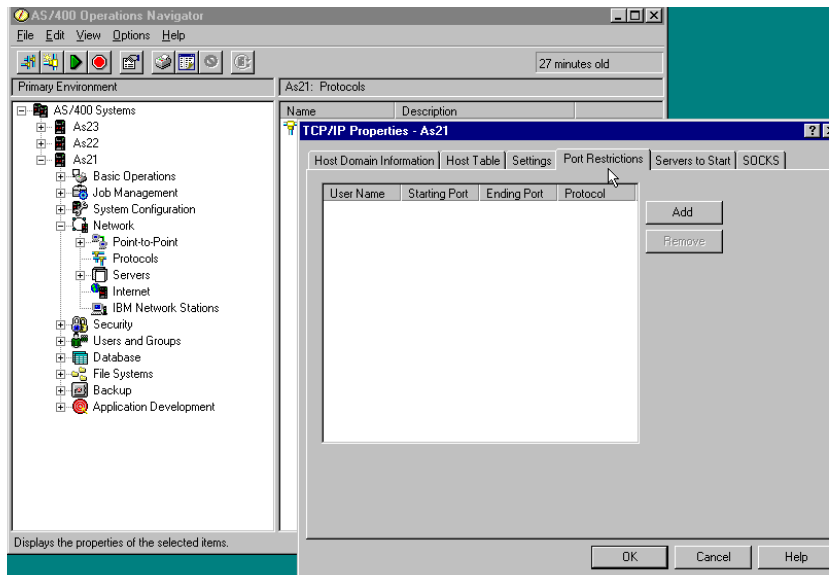

Figure 465. Port restrictions
6. Click the **Port Restriction** tab to limit port use to a user profile name. If you want to restrict a single port, you must specify the same starting and ending port number. Figure 465 shows the Port Restrictions dialog.